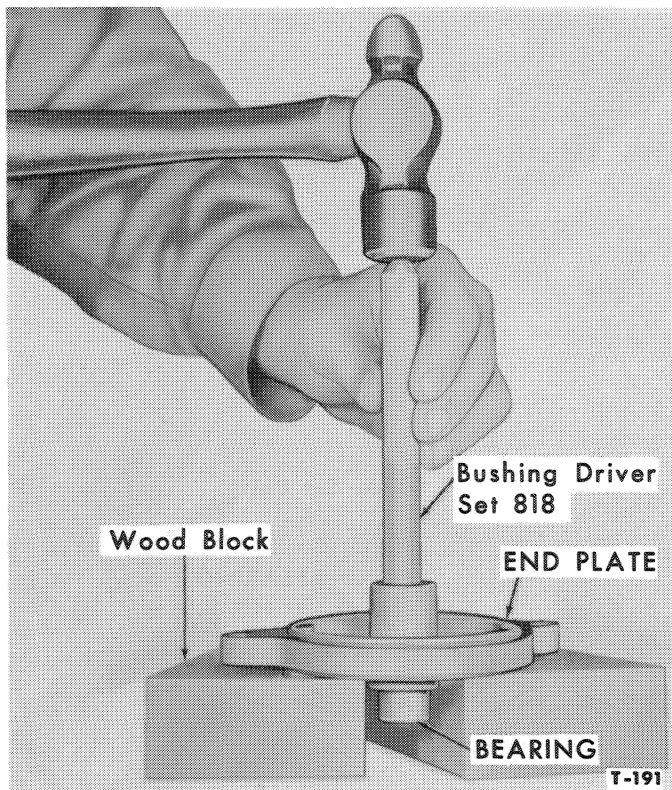

Figure 28—Removing Bearing from Front End Plate
2. Remove the bearing from the front end plate with Bushing Driver Set—818 as shown in Figure 28.